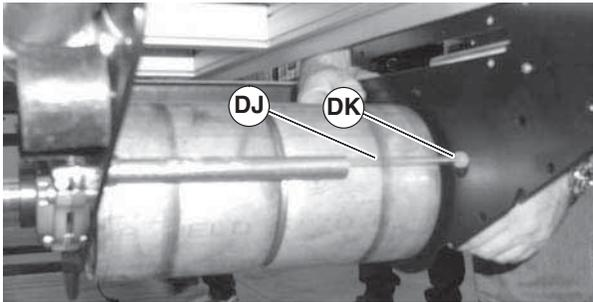

Figure 98
7. Disconnect flexible air hose (Figure 98, item DJ) from fitting (DK).